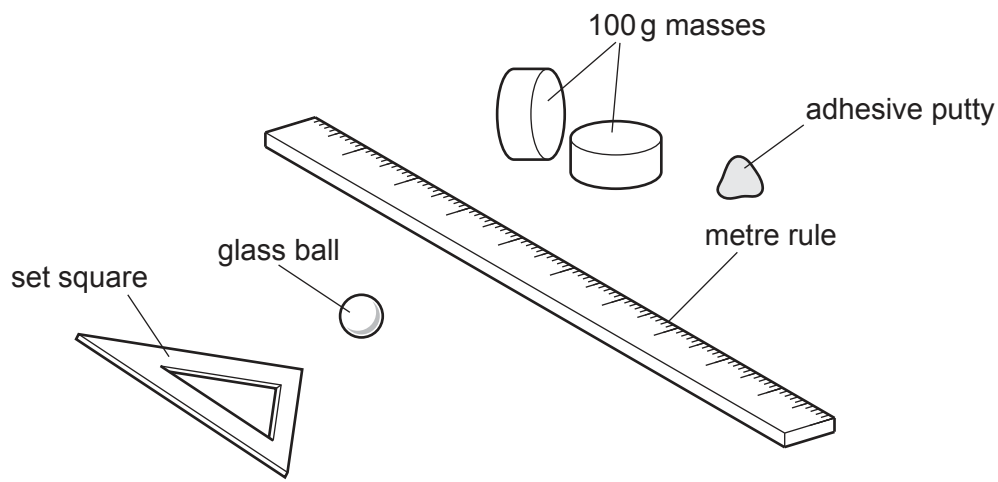

Fig. 3.1
- (a) (i) Describe briefly how to use the apparatus in Fig. 3.1 to determine the diameter of the glass ball.